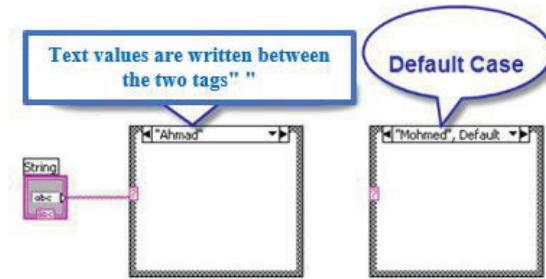

Figure 2.149: String Type Case
- If the input is **String type**, write the case values between **two quotes** and if you do not put the labels, LabVIEW will set them automatically, as shown in figure 2.149.